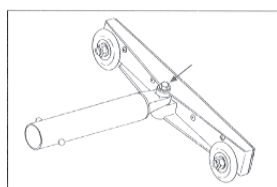

Figure 7
A. The Speed Roller Tail Block is equipped with wheels to let you glide the tail block down the wall faster and easier! (see figure 7.)